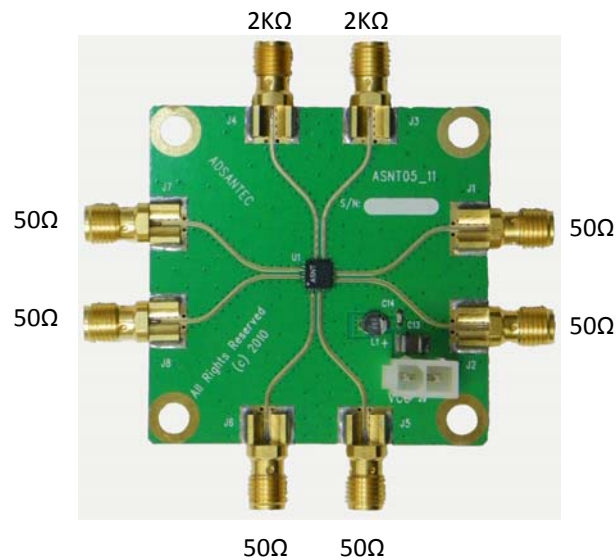

Fig. 5. Impedance of I/O Connectors
- Measure the resistance of all connector pins to VCC, including the power supply, while making sure the board is grounded. All high speed I/O ports should measure 50Ohms while on the power supply connector, VCC should be a short, and GND should be high impedance. icntp/icntn should measure 50Ohms and tnp/tnn should measure 2KOhms. Fig. 5 shows the resistance values of the described I/O connectors.